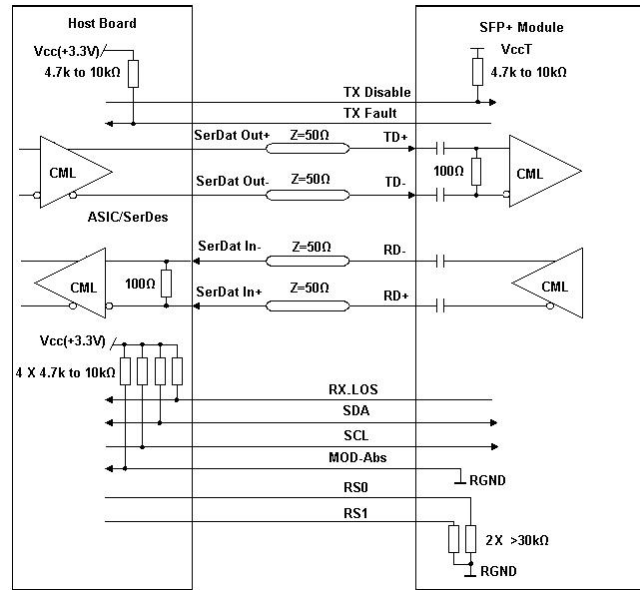

Figure 2 Recommended Interface Circuit for SFP+
2. AC coupled internally. See Figure 2 for input eye mask requirements. Self-biasing 100Ω differential input.